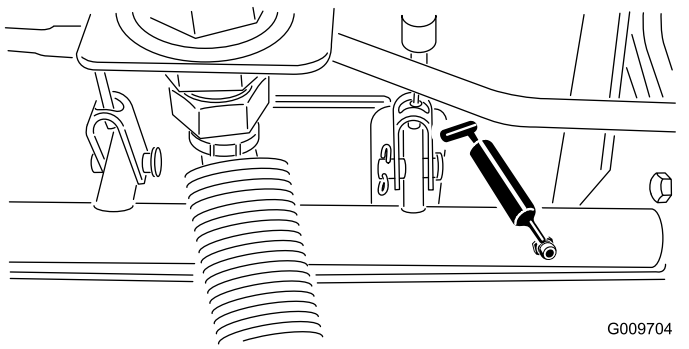

Figure 69
- Brake shaft pivot bearings (5) (Figure 69)